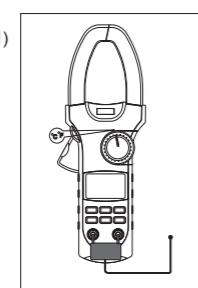

Figure 11
**I. Measuring Temperature (UT208 Only, See Figure 11)**